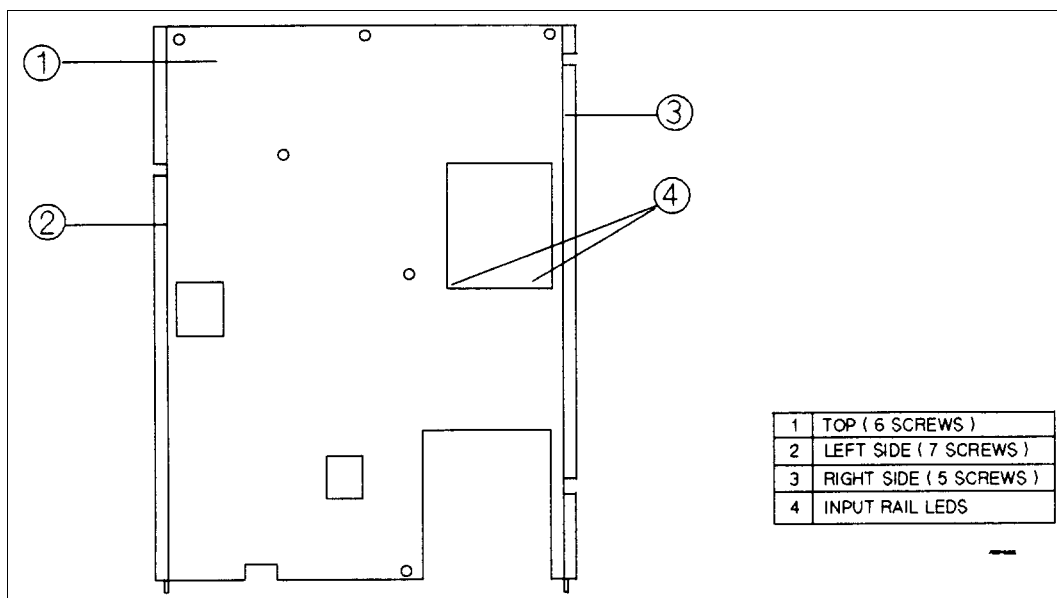

Figure C-4. Removing the Series 668xA Inner Cover
5. Observe the input rail LEDs under the inner cover (see Figure C-4). **If the LEDs are on, there is still hazardous voltage inside the supply.** Wait until they both go out (this may take several minutes) before proceeding. (If one LED remains on while the other goes out, the power supply probably has a defect that requires service.)
6. Remove the screws securing the inner cover (see Figure C-4).